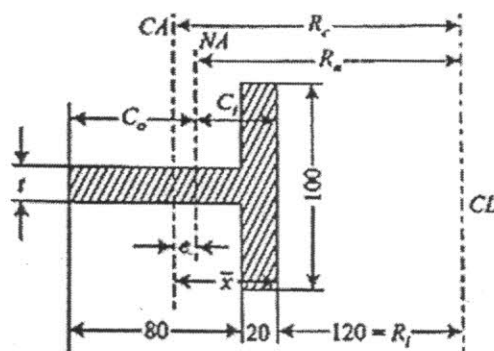

Fig. 2a
2. a) Fig. 2a shows a punch press is subjected to pure bending in its plane of symmetry. Find the proper value of thickness t so that extreme fiber stress in pure bending is numerically equal. If this section is subjected to a bending moment of 3 kN-m, determine the maximum fiber stress induced.